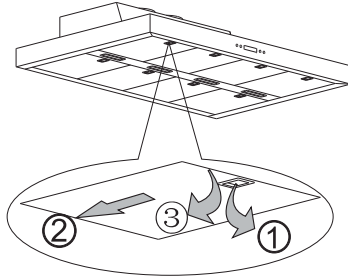

Fig. 3
4. Remove the 8 filters. See figure 3.